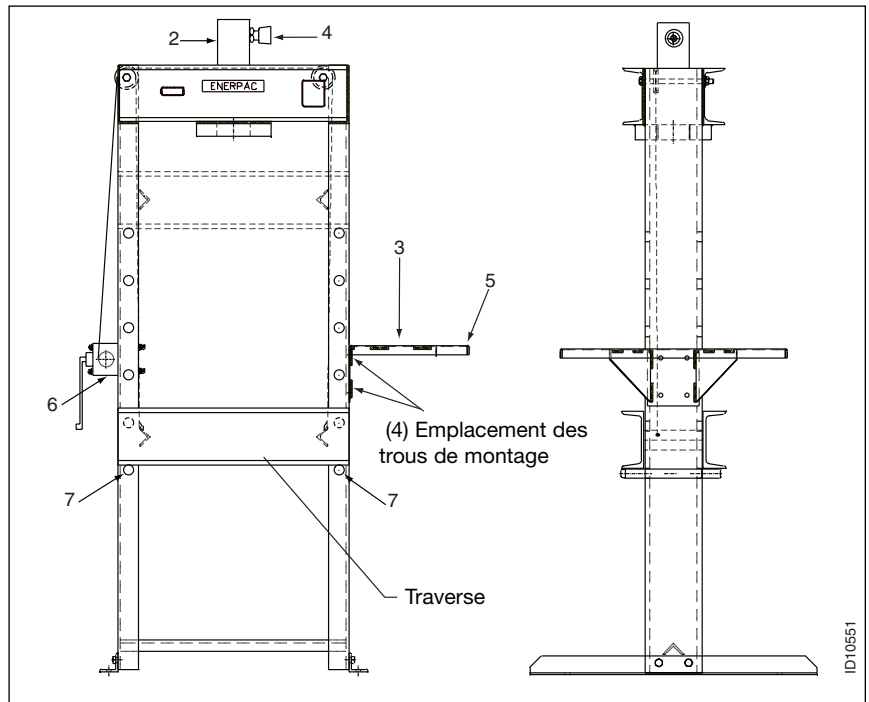

Figure 1, Presse VLP
3.0 INSTALLATION (VOIR LA FIGURE 1)